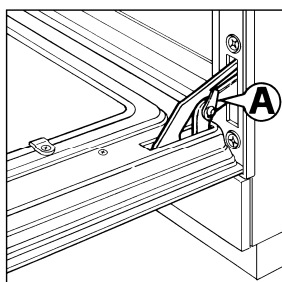

Fig. 10
- hook the rings "A" onto the hinge seats (Fig. 10);